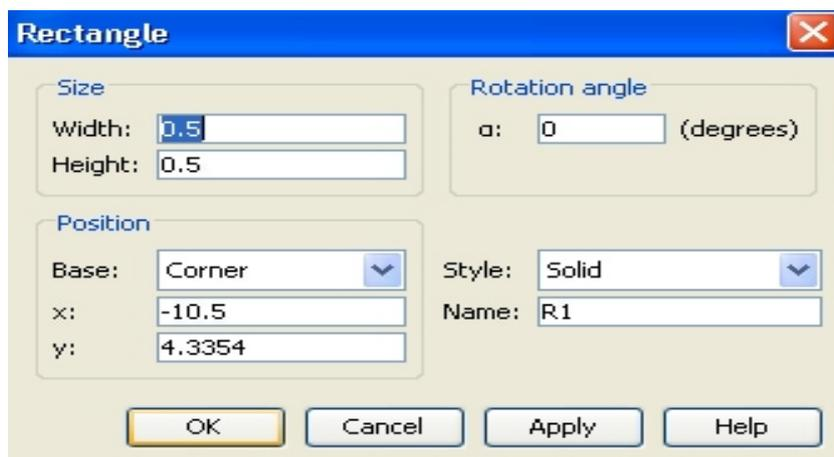

Figure 6: Corner box defining.
- Click Draw > Specify Objects > Square and on the pop-up window specify the left top corner box as in Fig. 6. Click OK (as a result we have a box R1). The coordinate of the right lower corner of 'R1' is  $(-10, 4.4354)$  in the 2D working plane (we wish that the source point  $(-10, 4.4354, 0.25)$  is located on a mesh point, so we define 'R1'.)